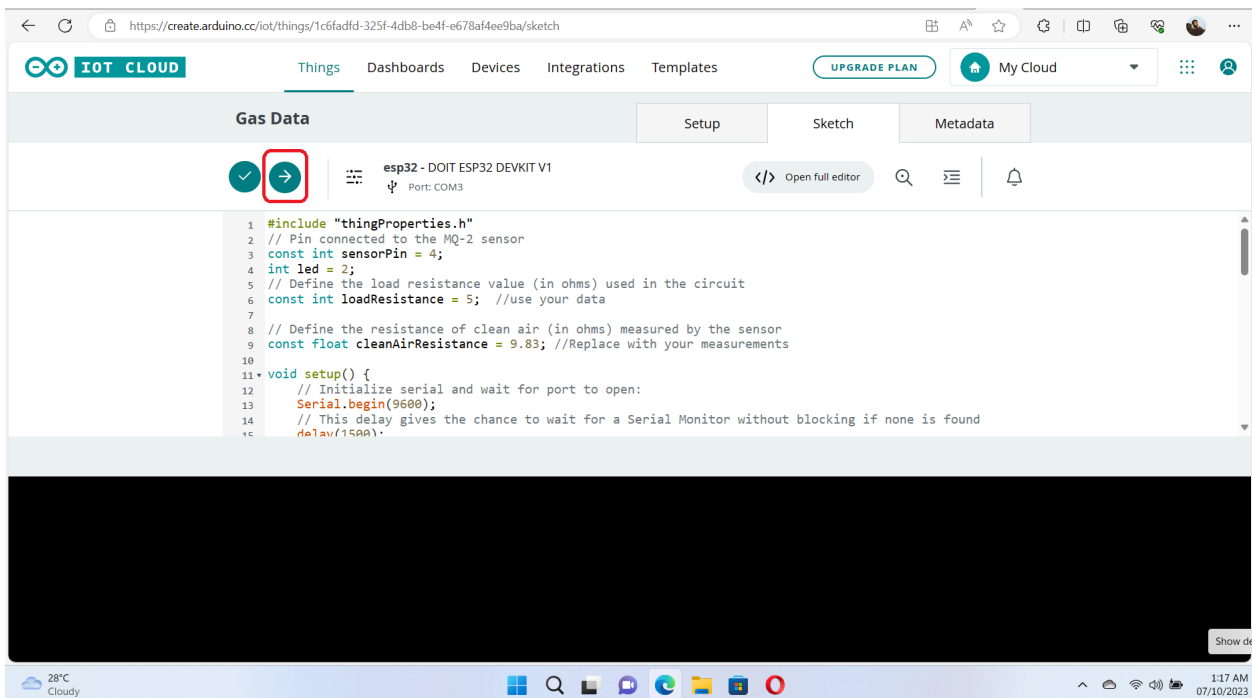
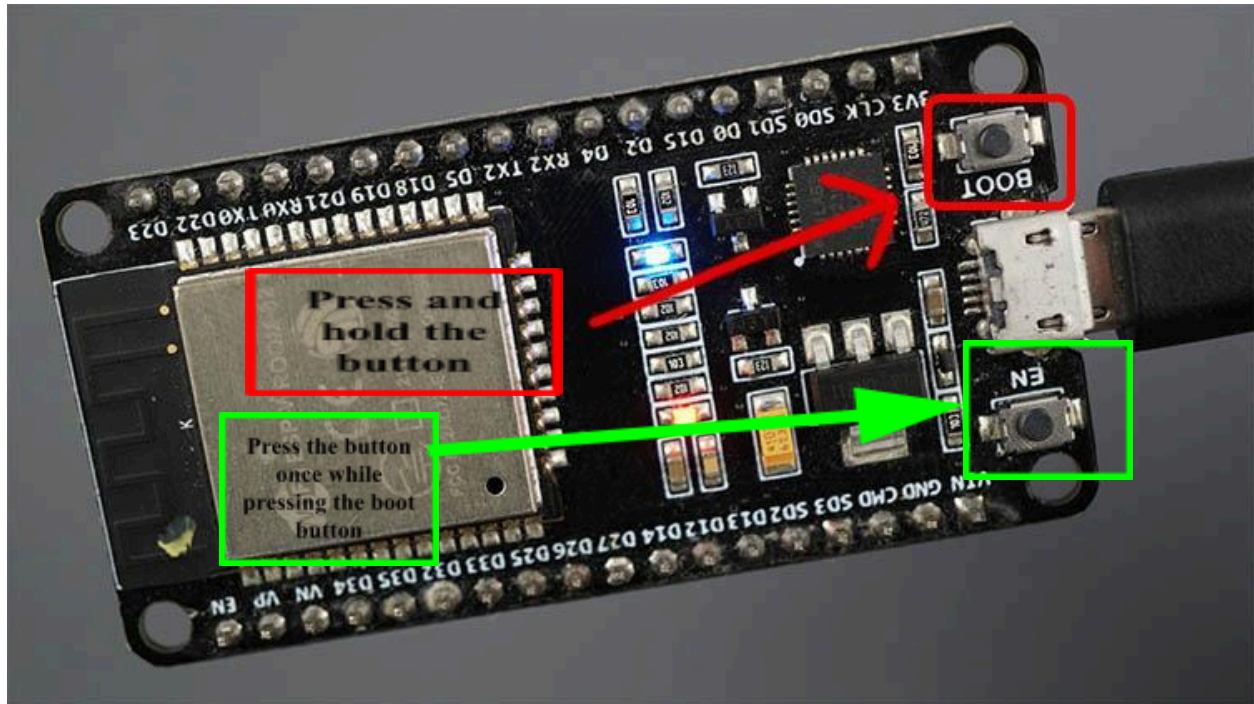

Fig. 29: Upload Button
Fig. 30: Boot Button and EN button on ESP32
- To upload the code to the board, click the right arrow button as shown in Fig. 29. It's important to note that you should ***press and hold the boot button and press the EN button too*** on the ESP32, located at the bottom right and left corner shown in Fig. 30, ***then*** you click the code upload button on the screen. Wait for the code to upload while holding the boot button. The ESP32 may ask to install 3 additional drivers this time, notice that and click yes if asked.